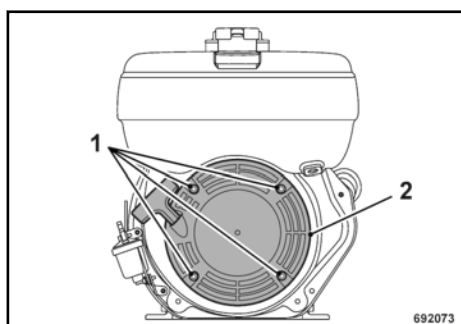

Fig. 55
Unscrew the fastening screws (1) ↗ Fig. 55 and pull the recoil starter (2) from the engine housing.